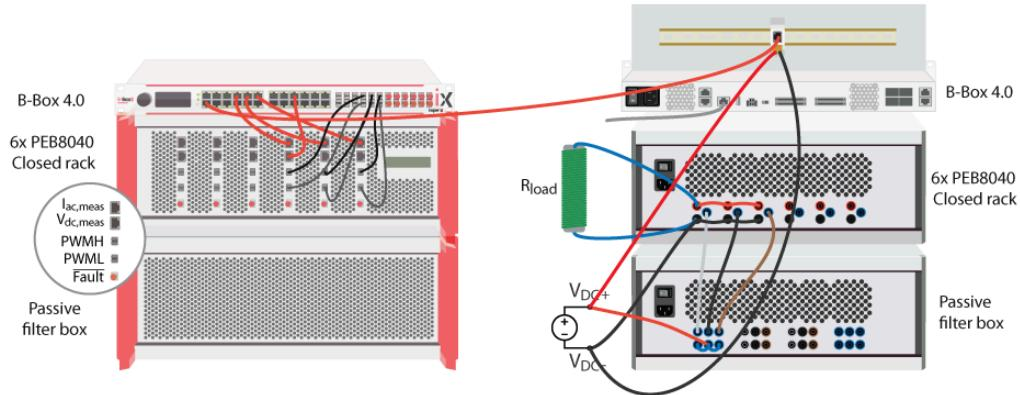

Figure 2. Interleaved boost converter wiring schema
The wiring of the system is executed as shown in Fig.2. The main points to consider are as follows:
- The DC source is correctly connected by linking DC+ to the outputs of the inductors, connected in star configuration, and DC- to VDC- of the modules (see Fig.2).